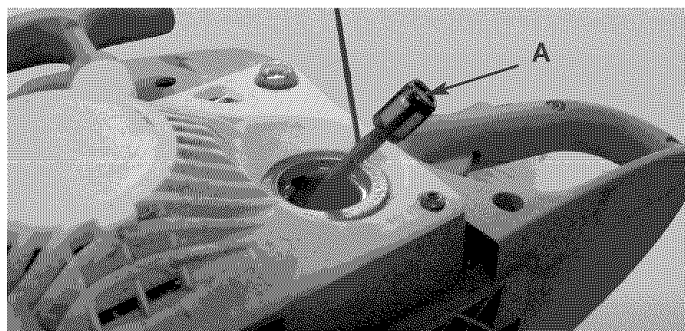

Fig. 27
4. Lift filter (A) out of tank (Fig. 27).